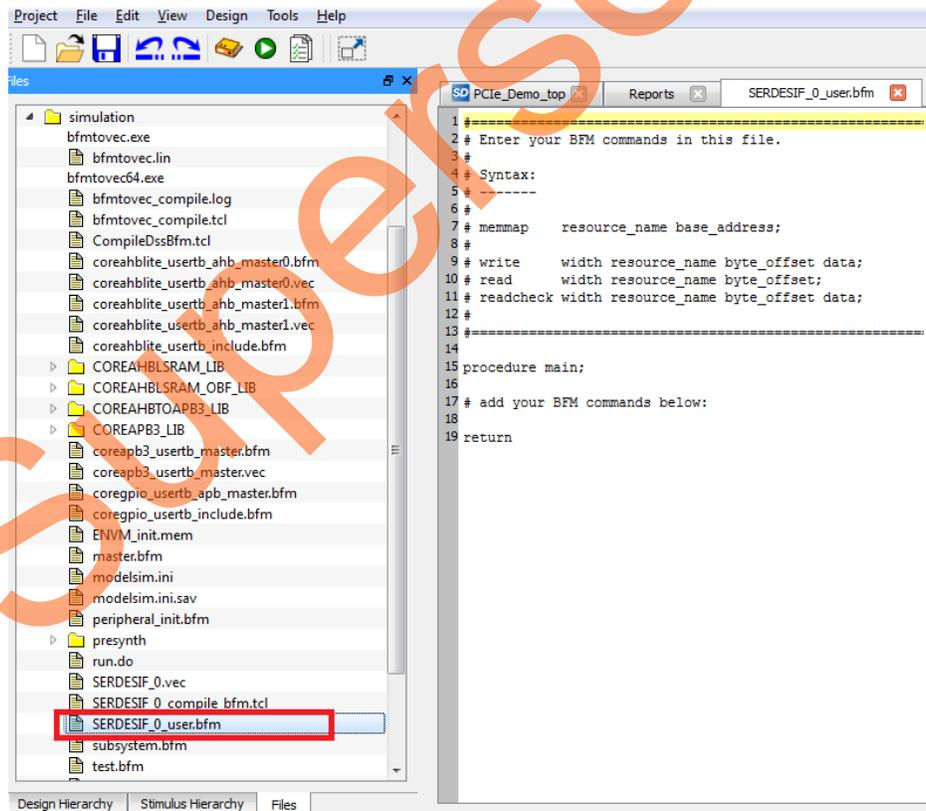

Figure 37 • SmartDesign Generated SERDESIF_0_user.bfm File
1. To open the `SERDESIF_0_user.bfm`, go to the **Files** tab > **Simulation** folder, and double-click the `SERDESIF_0_user.bfm`. The `SERDESIF_0_user.bfm` file is displayed as shown in Figure 37.